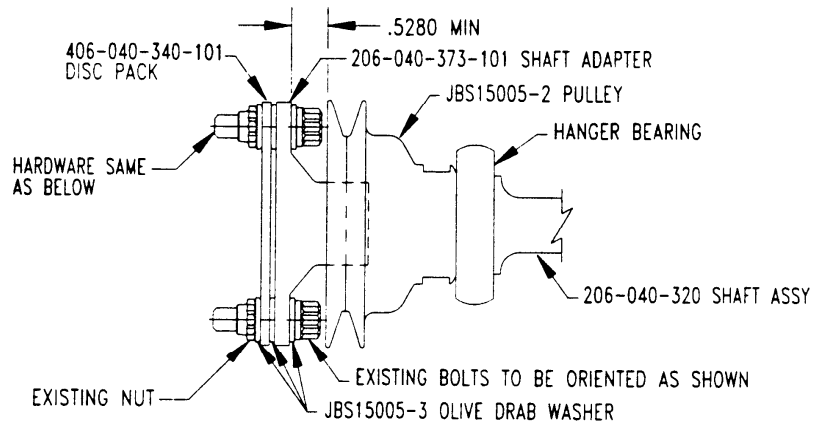

Figure 203. Pulley / Disc Pack Installation
(206L4 ONLY) (Ref. Fig. 203)
NOTE: The radius edge of the washer must be mated against the disc pack. See Fig. 203.
4. Attach the forward shaft assy, P/N 406-040-315-111, to the disc pack/adapter assy near the pulley with existing hardware oriented and installed as shown in Fig. 203. Insure that radius edge of washers mate against disc pack.